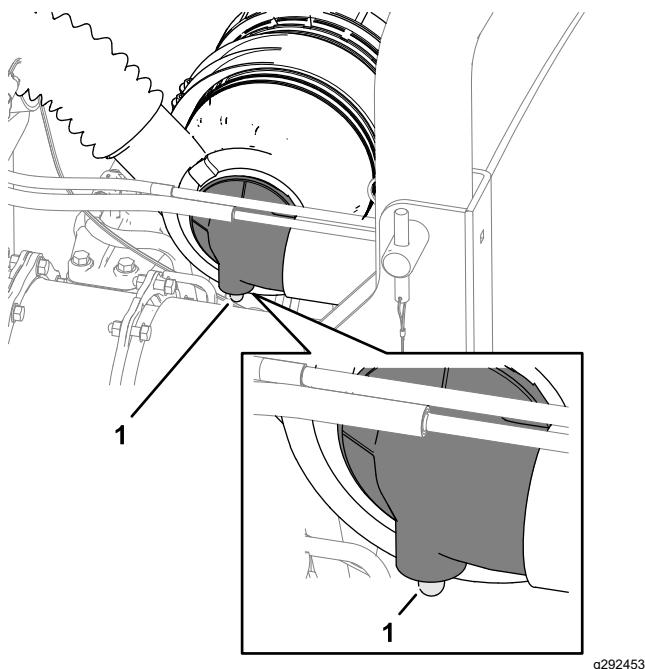

Figure 52
2. Check the air filter-blockage indicator (Figure 52).
Note: Service the primary air filter when the filter-blockage indicator (Figure 52) is red. Changing the air filter frequently increases the chance of dirt entering the engine when the filter is removed.